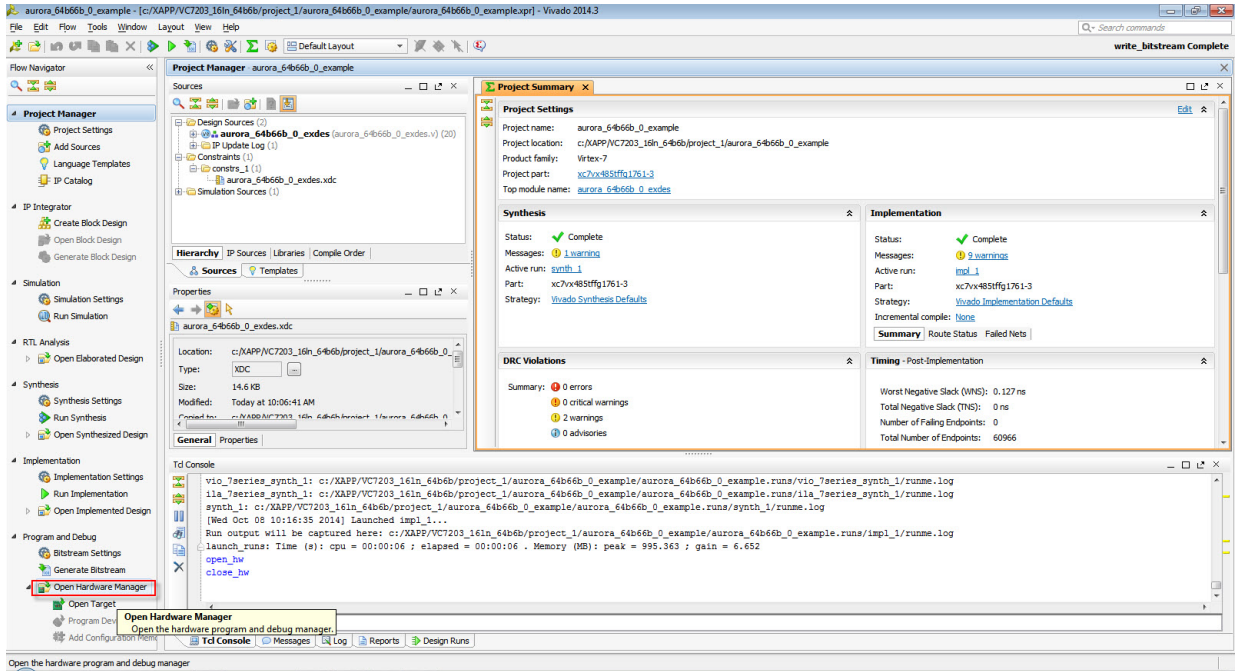

Figure 21: Open Hardware Session
1. Click **Flow > Open Hardware Session** or click **Open Hardware Manager** under **Program and Debug** in the Project Manager panel as shown in Figure 21.